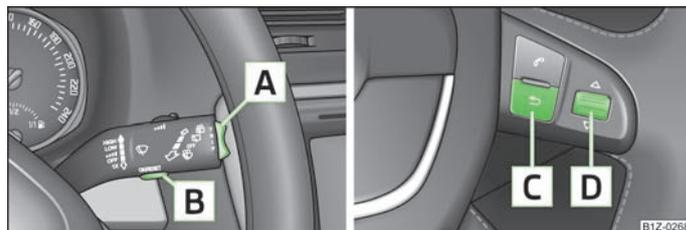

Fig. 6 Multi-functional indicator: Control elements on the windshield wiper lever/control elements on the multifunction steering wheel
Switching over the memory with the help of the button » Fig. 6 on the windshield wiper lever or with the help of the adjustment wheel on the multifunction steering wheel.
The rocker switch » Fig. 6 and the button are located on the windshield wiper lever. Switching over and resetting is performed with the adjustment wheel on the multifunction steering wheel.
The outside temperature appears in the display when the ignition is switched on. If the outside temperature drops below +4 °C, a snow flake symbol (warning signal for ice on the road) appears before the temperature indicator and a warning signal sounds. After pressing the rocker switch **A** at the windshield wiper lever » Fig. 6 or the button **C** at the multifunction steering wheel » Fig. 6, the function shown last is indicated.
The driving time which has elapsed since the memory was last erased, appears in the display. If you wish to measure the driving time from a particular time, you must set the memory to zero at this moment in time by pressing the button **B** » Fig. 6 on the windshield wiper lever or the adjustment wheel **D** » Fig. 6 on the multifunction steering wheel for longer than 1 second.
If you wish to determine the average fuel consumption over a certain period of time, you must set the memory to zero at the start of the measurement using the button **B** » Fig. 6 on the windshield wiper lever or the adjustment wheel **D** » Fig. 6 on the multifunction steering wheel. Dashes appears in the display for the first 100 m you drive after erasing the memory.
The distance driven since the memory was last erased appears in the display » page 15. If you wish to measure the distance driven from a particular time, you must set the memory to zero at this moment in time by pressing the button  » Fig. 6 on the windshield wiper lever or the adjustment wheel  » Fig. 6 on the multifunction steering wheel.
The average speed since the memory was last erased is shown in the display in km/hour » page 15. If you wish to determine the average speed over a certain period of time, you must set the memory to zero at the start of the measurement using the button  » Fig. 6 on the windshield wiper lever or the adjustment wheel  » Fig. 6 on the multifunction steering wheel.
- ▶ With the button  » Fig. 6 on the windshield wiper lever or the adjustment wheel  on the multi-function steering wheel, select the menu point **Warning against excessive speeds**.